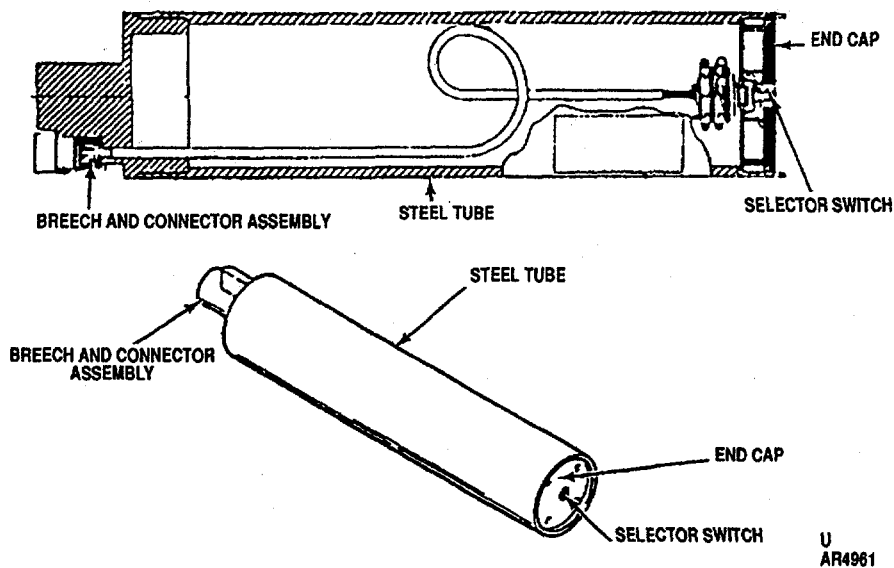

Figure 1-21. Canister, mine, training: M89.
(1) The M89 Training Canister (fig. 1-21) is a reusable, totally inert canister. The major components of the canister are a breech and connector assembly, a heavy wall tube, an end cap, a switch mounting plate, a rotary four position switch, resistors and fuse. The M89 Training Canister is physically comparable to the M87 and M88 canisters and is capable of inducing faults into VOLCANO system via the four position switch. The canister is painted in blue.
(2) The M89 Training Canister sends electrical signals to the Dispenser Control Unit (DCU) for simulating the following conditions depends on the switch position setting: